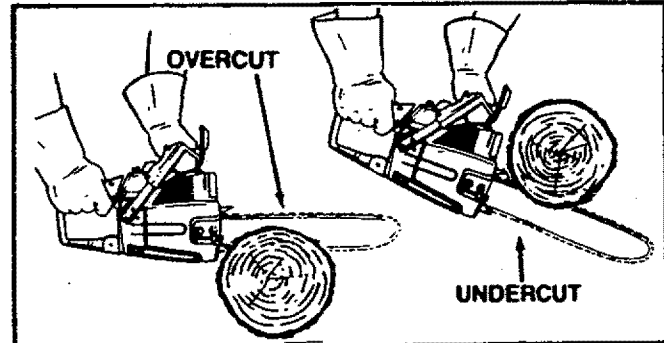

Figure 22
- Give special attention to logs under strain to prevent the saw from pinching. Make the first cut on the pressure side to relieve the stress on the log. Figure 22.
2. TYPES OF CUTTING USED Figure 22.